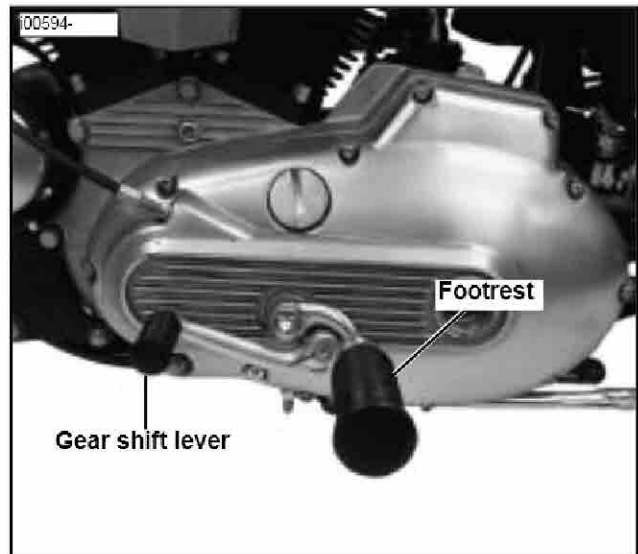

Figure 1. Gear Shift and Footrest Removal
2. See Figure 1. Remove the gear shifter lever and the left footrest.